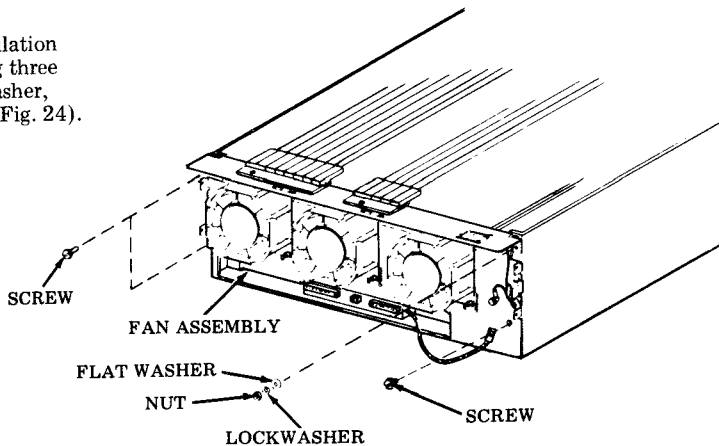

Fig. 24
Step 6 — Remove 408050 ventilation assembly by removing three screws and the flat washer, lockwasher, and nut (Fig. 24).
Step 17 — Install ventilation assembly on the frame using the hardware removed in Step 6 (Fig. 24). Use notches on logic frames as a guide for alignment. Route ac cable along the inside of frame (Fig. 35).